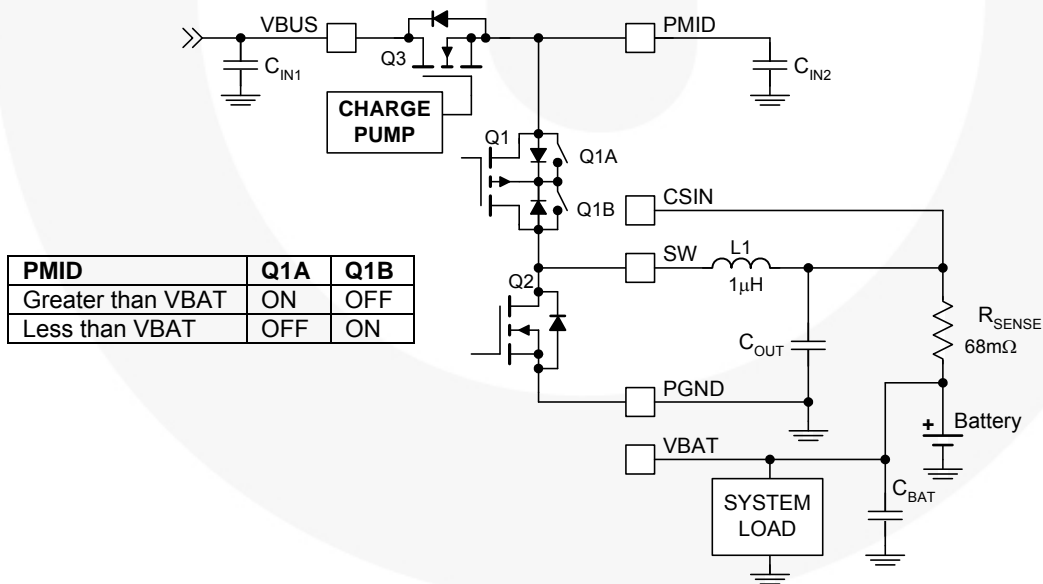

Figure 3. Power Stage
2. 6.3 V rating is sufficient for CMID since PMID is protected from over-voltage surges on VBUS by Q3 (Figure 3).